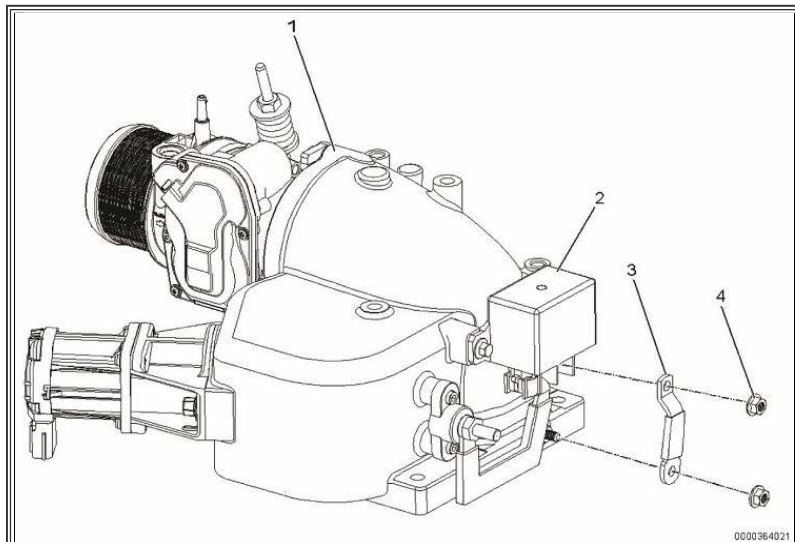

Figure 10: IAH Relay Buss Bar Removal
4. Serrated nut (2)
38. Position IAH relay (Figure 10, Item 2) onto air and EGR mixer (Figure 10, Item 1).
39. Install two bolts and Allen nuts securing IAH relay assembly (Figure 10, Item 2). Remove relay assembly. Tighten fasteners securely.
40. Position IAH relay buss bar (Figure 10, Item 3) onto mixer assembly (Figure 10, Item 1). Install two serrated nuts (Figure 10, Item 4) and tighten securely.